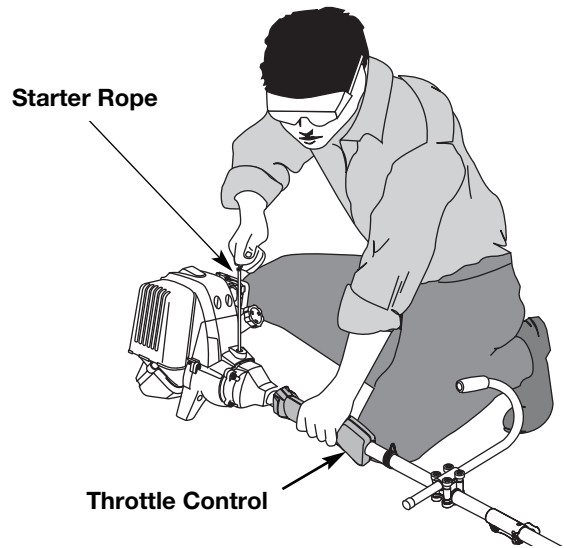

Fig. 8
**WARNING:** Avoid accidental starting. Make sure you are in the starting position when pulling the starter rope (Fig. 8). To avoid serious injury, the operator and unit must be in a stable position while starting.
6. Crouch in the starting position (Fig. 8) and squeeze the throttle control. Pull the starter rope briskly 5 times.